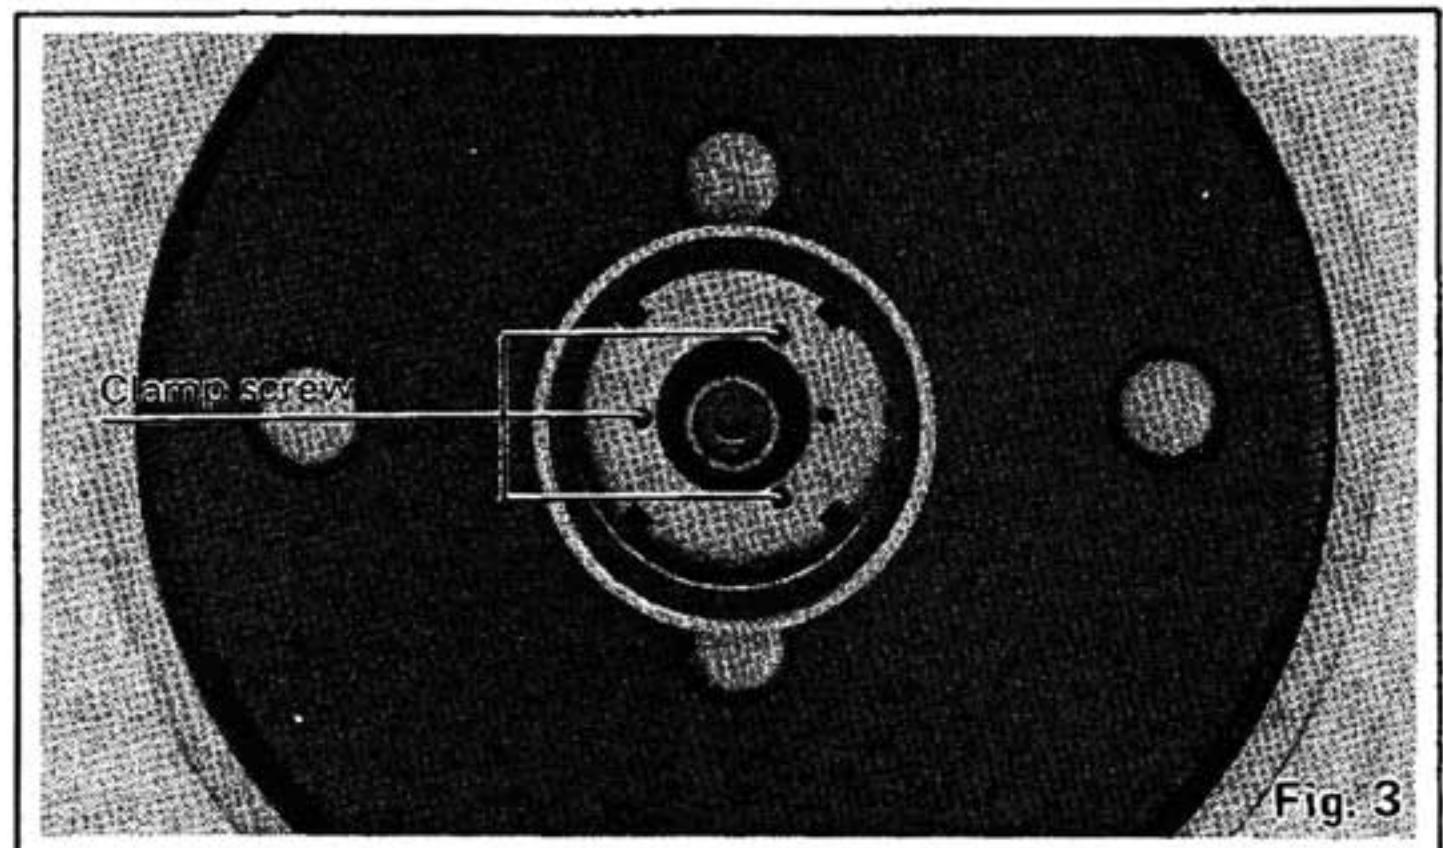

Fig. 3
- 2) Do not remove the three screws for securing the magnet. (See Fig. 3) Should the position of the fixed magnet be altered by loosening the securing screws, the rated performance of the unit can not be guaranteed.